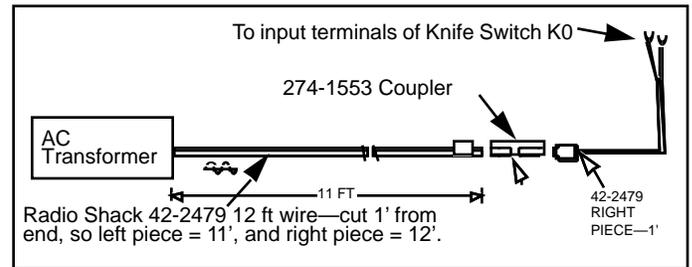

Figure 26—Using Phono Jack Wire For Input AC Power
**OPTION:** You can connect input power using a female RCA phono plug for a quick connection. This is shown in Figure 26—"Using Phono Jack Wire For Input AC Power".